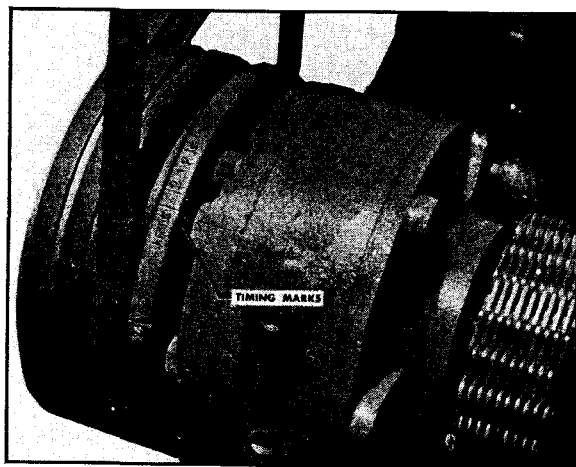

Fig. 12-91. "1-6 TC" mark on accessory drive pulley
3. Rotate the crankshaft until the engine is No. 1 Top Center position. At this point the "1-6 TC" mark on the accessory drive pulley will be indexed with the arrow on the boss of the gear case cover and both intake and exhaust valves for No. 1 cylinder will be closed. Fig. 12-91.